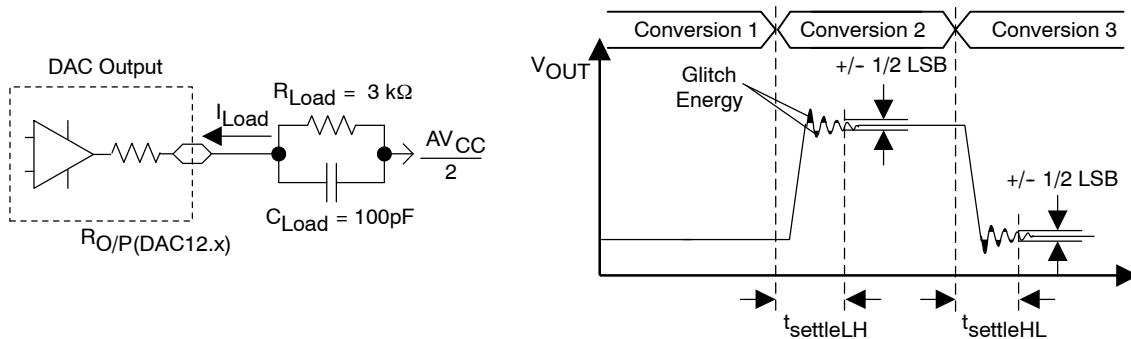
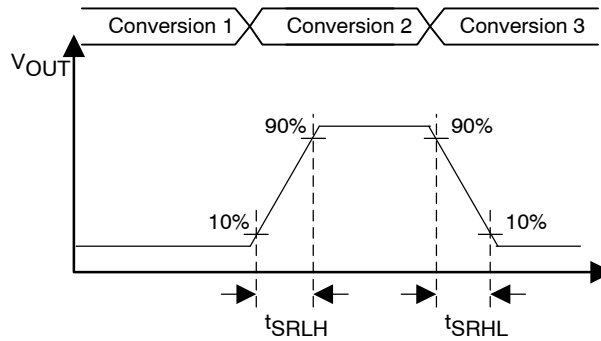

Figure 24. Settling Time and Glitch Energy Testing
Figure 25. Slew Rate Testing
## 12-bit DAC, dynamic specifications (VREF,DAC12 = AVCC, DAC12IR = 1) (see Figure 24 and Figure 25)
- NOTES: 1. RLoad and CLoad connected to AVSS (not AVCC/2) in Figure 24.